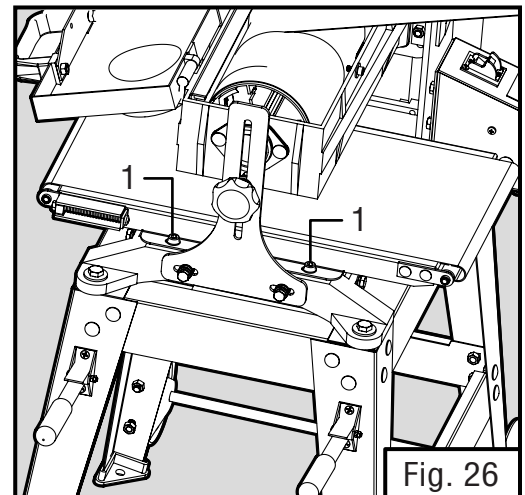

Fig. 26
5. Unscrew and remove the two cap screws and flat washers (Fig. 26 - 1) from the conveyor table.